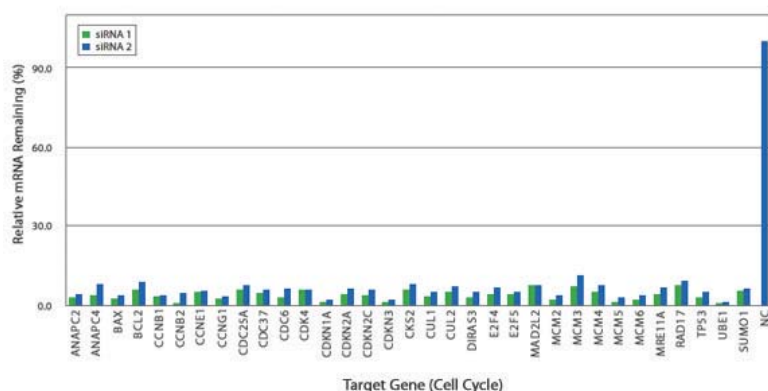

Figure 6. Efficient knockdown by AccuTarget™ Validated siRNAs (20 nm siRNA concentrations for Cell cycle Validated Set)
*AccuTarget™* Positive Control siRNAs are designed to induce high siRNA knockdown of their target genes (Figure 6, 7 & 8). siRNAs targeting an endogenous gene (GAPDH) or a reporter system (GFP and Luciferase) are available. *AccuTarget™* Negative Control siRNAs do not target any known genes in human, mouse and rat. The negative control siRNA can be fluorescently labeled for easier monitor of transfection efficiency. *AccuTarget™* Control siRNA Sets consisting of a positive and negative control siRNAs are also available for user convenience (Figure 9).